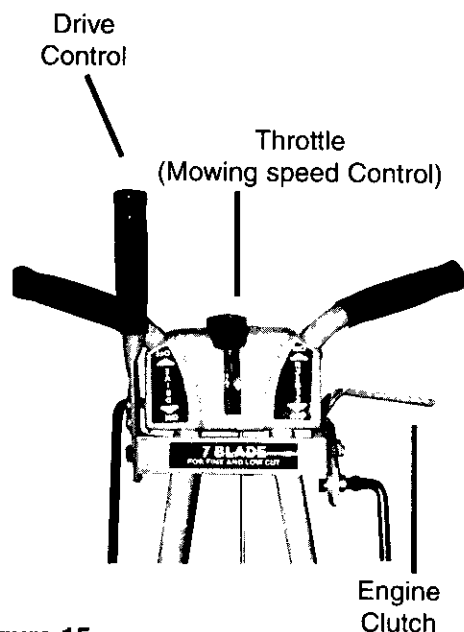

Figure 15
3. Lift engine clutch control and hold against handle to engage reel (Fig. 15).
6. To stop engine move throttle lever to STOP position (Fig 15).